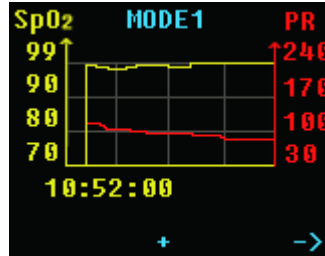

Figure 6. **Review Interface 1**
a) On the measuring interface, press "up button" to enter the **Review Interface 1** directly, as shown in figure 6: